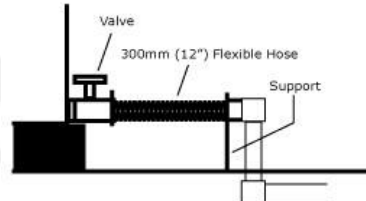

FIGURE 6
- Take pipe directly into ground to avoid running over pipe and breaking fitting (see figure 6).